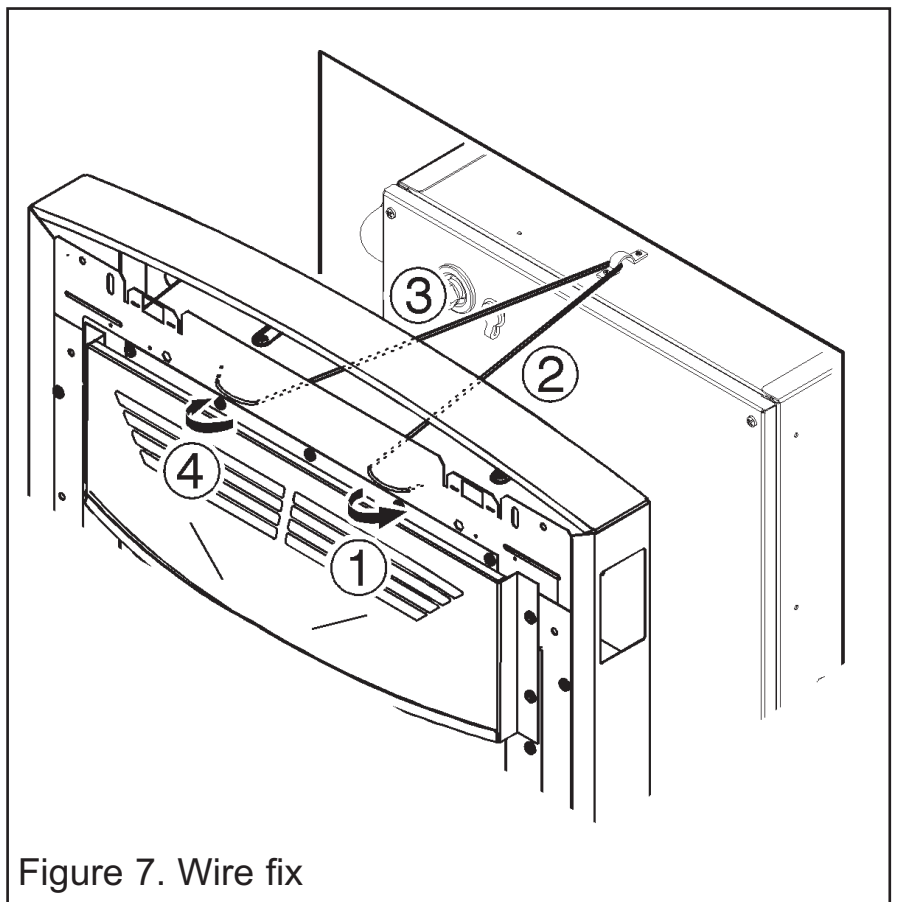

Figure 7. Wire fix
6. At the top of the firefront there are four small holes, two each side of the firefront. From the front of the firefront, thread about 50mm of the steel wire into the outside small hole on the right side of the firefront (See point 1 - figure 7).
7. Thread the other end of the wire through the remaining small hole to the left. Continue to push the wire through this hole until there is only a small loop of wire at the front of the firefront (See point 2 - figure 7).
secure the steel wire. Take the long piece and thread this through the bracket located at the top centre of the boiler (See figure 7).
9. From the back of the firefront thread the long piece of steel wire through the inner small hole on the left hand side of the firefront (See figure 7).
firefront is secure. Thread the wire through the remaining small hole to lock the wire and firefront in place (See point 4 - figure 7).